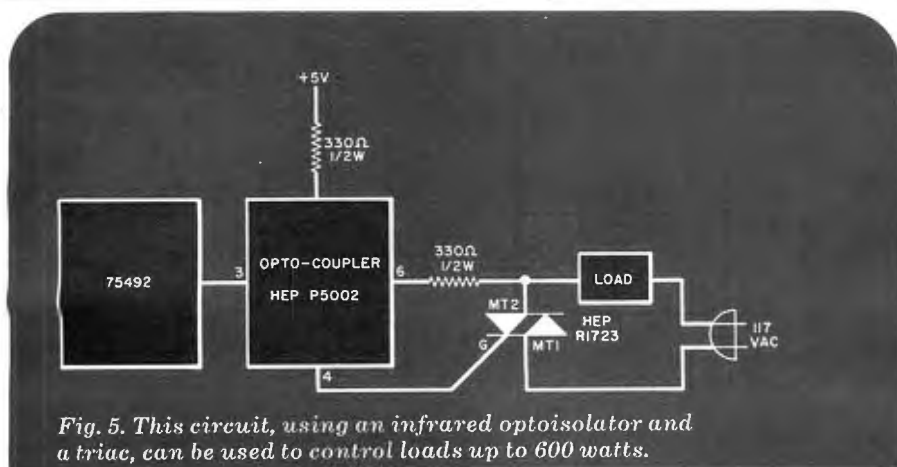

Fig. 5. This circuit, using an infrared optoisolator and a triac, can be used to control loads up to 600 watts.
**Control of AC Appliances.** An alternative to a relay or simple light coupler is shown in Fig. 5. The Motorola HEP P5002 is an optoisolator that houses an infrared diode and a small triac. The low power triac, in turn, controls a larger triac, such as the HEP R1723 that switches the ac power to the load. The rating of the larger triac determines the maximum wattage that can be controlled. For example, the HEP R1723 will work with appliances consuming up to 600 watts. Pulsing the appropriate port under program control will result in partial power being delivered to the appliances, allowing the computer to dim lights and run motors at variable speeds.